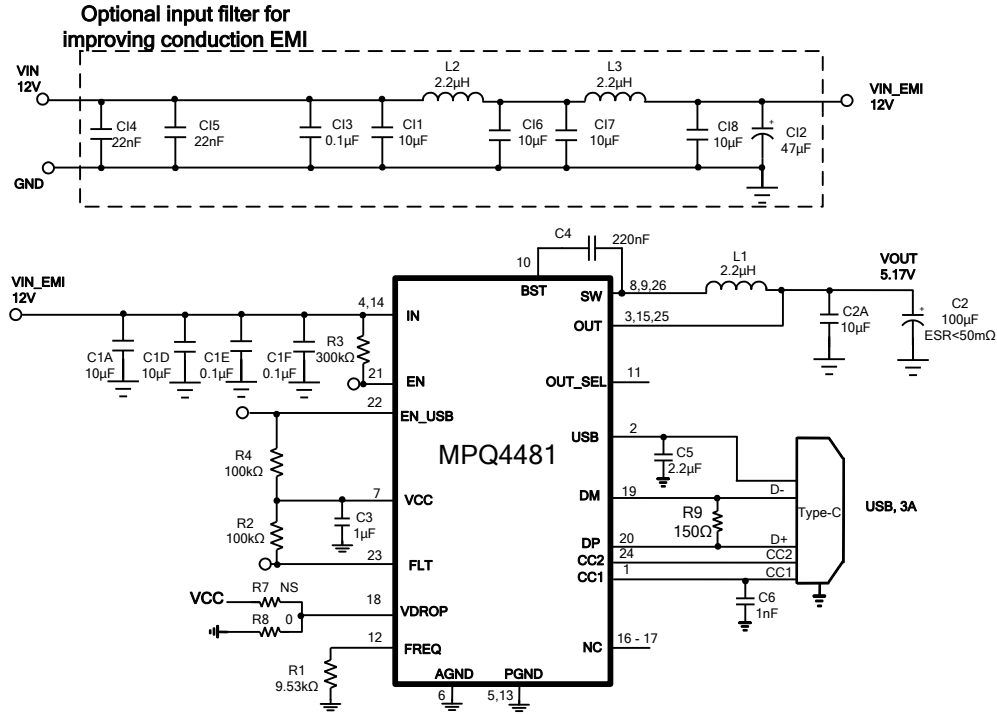
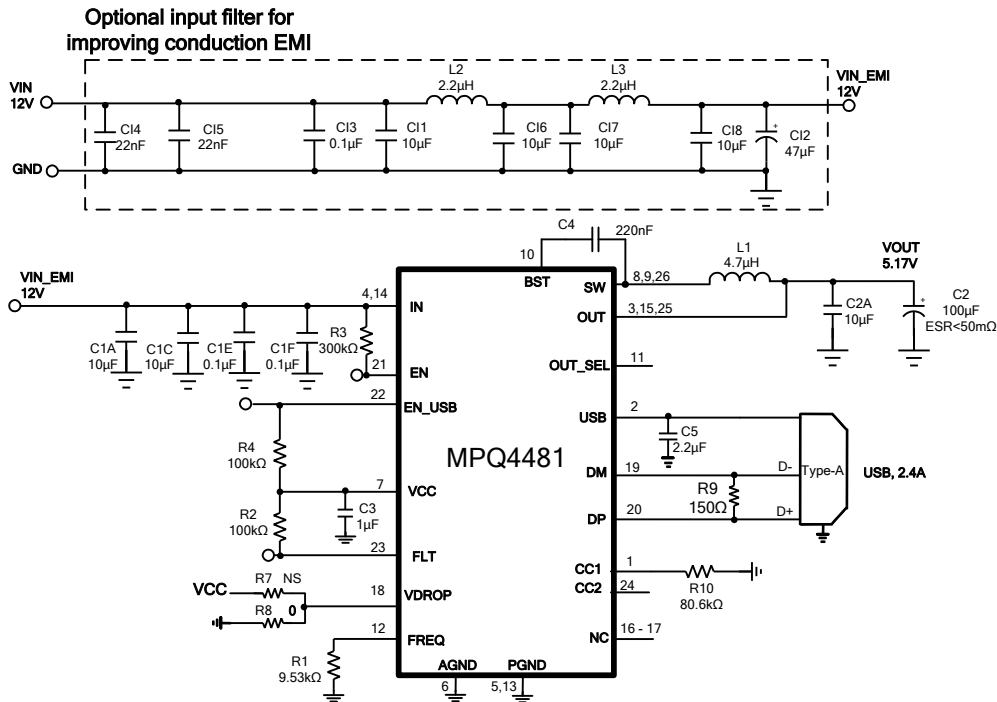

Figure 12: USB Type-C 5V/3A DFP Port (10)
Figure 13: USB Type-A 5V/2.4A Port (10)
- 9) The recommended layout is based on the Typical Application Circuits in Figure 12 and Figure 13.